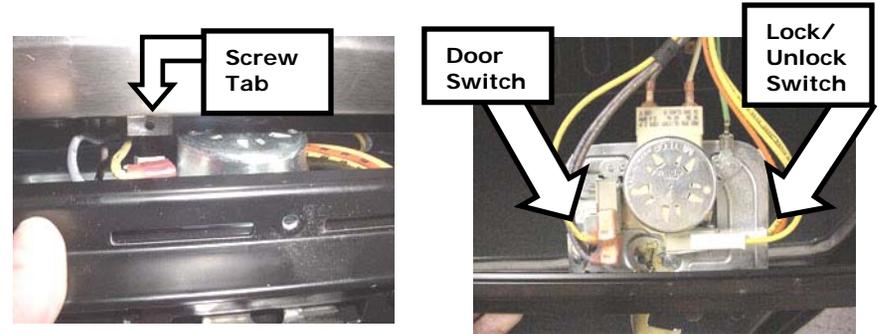

Figure 10 Door latch/motor assembly
The motorized door latch (MDL) mechanism (120V 5W) has 2 switches - the door switch and the lock/unlock switch. The latch will automatically lock when mode and temperature selectors are set to CLEAN, and unlocks when the oven cools to ~490°F. It is serviced as an assembly. See Figure 10.
2. Pull trim forward about 1", then slightly to the right or left to clear the screw tab (see Figure 10).